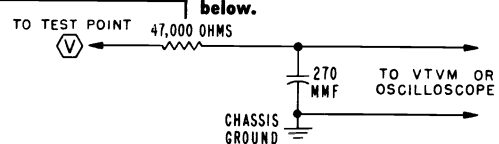

Figure 7. Decoupling Filter.
- Connect VTVM high side to test point "V" through a decoupling filter, see figures 7, and 11.
| Set Channel Selector on channel 3 or an unassigned low channel. Contrast control fully to the left. Connect negative of 3 volt bias supply to test point "T" (IF AGC); positive to chassis. | Connect high side to 6CG8 mixer-osc. insulated tube shield, see fig. 5. Connect low side to chassis near tube shield. Set sweep frequency to 43 MC, and sweep width approximately 7 MC. | If an external marker generator is used, loosely couple high side to sweep generator lead on tube shield, low side to chassis. Marker frequencies indicated on IF Response Curve. | Connect high side to test point "V" thru a decoupling filter, see figs. 7, and 11. | Check curve obtained against ideal response curve in fig. 8. Note tolerances on curve. Keep marker and sweep outputs at very minimum to prevent overloading. A reduction in sweep output should reduce response curve amplitude without altering the shape of the response curve. If the curve is not within tolerance or the markers are not in the proper location on the curve, touch-up with IF slugs as instructed below. |